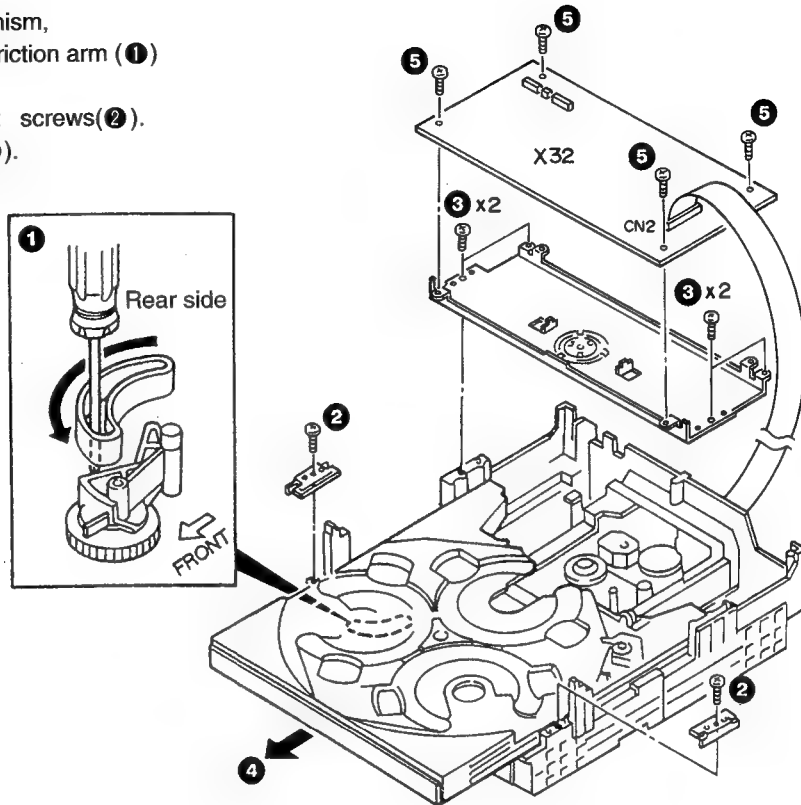

FIG. 1
1. Remove the two clamp bracket attachment screws.(Fig.1 ③).